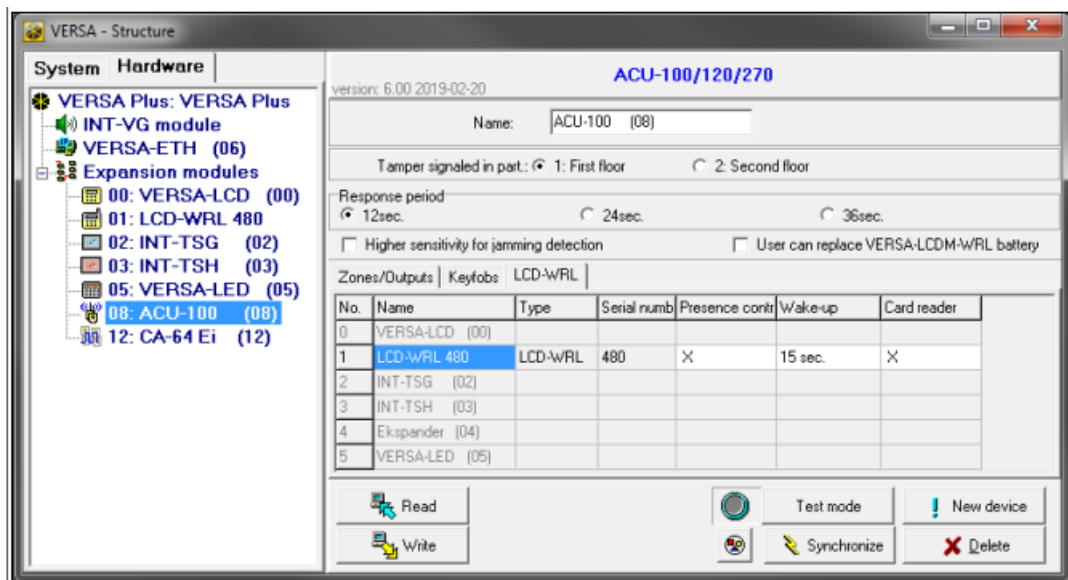

Fig. 3. DLOADX program: keypad settings stored in the ABAX 2 / ABAX controller.
You can add the wireless keypad to the ABAX 2 / ABAX system by using either a computer with DLOADX program installed, or an LCD keypad. The controller allows for registering of up to 6 VERSA-KWRL2 keypads. If no wired keypad is connected to the control panel, you can only add the first wireless keypad using the DLOADX program (to establish communication between the program and the control panel, you must start the service mode “from pins” – refer to the control panel programming manual). When adding the device, its serial number is required. The serial number sticker can be found on the electronics board. **DLOADX program** You can add wireless keypads in the “VERSA – Structure” window, “Hardware” tab, after clicking on the name of ABAX 2 / ABAX controller on the list of devices, and then on the “LCD-WRL” tab (see: Fig. 3 p. 7).
**Removing the keypad from the wireless system DLOADX program** You can remove the wireless keypads in the “VERSA – Structure” window, “Hardware” tab, after clicking on the name of ABAX 2 / ABAX controller on the list of devices, and then on the “LCD-WRL” tab (see: Fig. 3 p. 7).
- DLOADX program: “VERSA – Structure” window “Hardware” tab “Expansion modules” branch [controller name] “LCD-WRL” tab (see: Fig. 3),